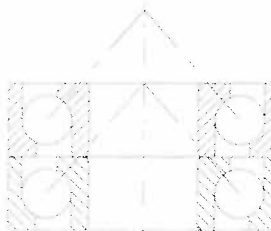

Figure 9.1
- 3) Assemble all parts from (06.070.0) to (06.160.0) on vertical shaft (06.140.0). The two thrust ball bearing (06.080.0) must be set as shown in figure 9.1.